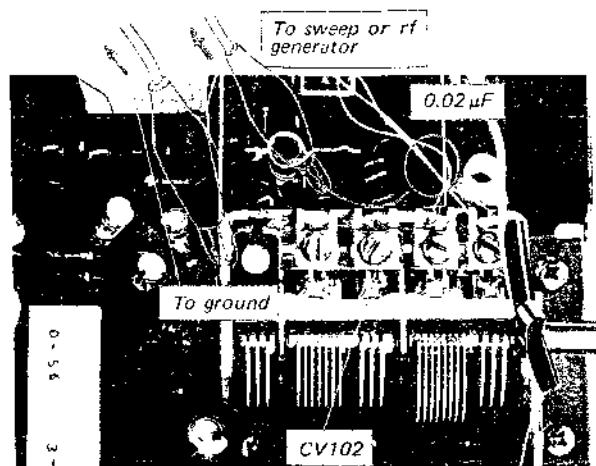

Fig. 3-4. 10.7 MHz signal injection
2. Connect the output cable of the generator across CV102 on the fm (a-m) front end/i-f amp/MPX board. Use alligator clips and make the connection through a $0.02\mu\text{F}$ coupling capacitor as shown in Fig. 3-4.